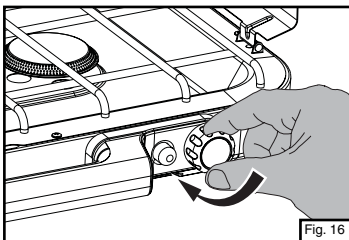

Fig. 16
- Close both valves firmly. (Fig. 16)